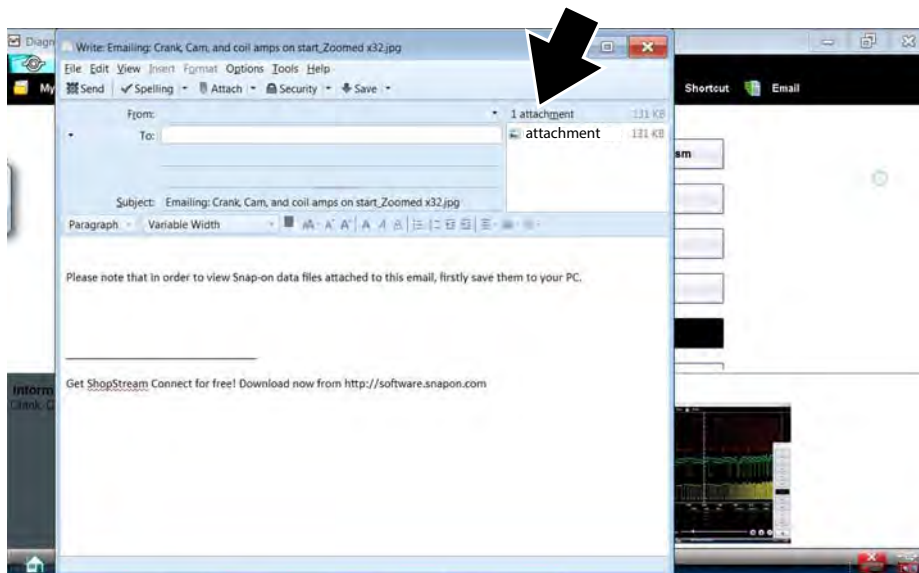

Figure 12-8
3. A new e-mail message window displays with the selected file attached (Figure 12-8).